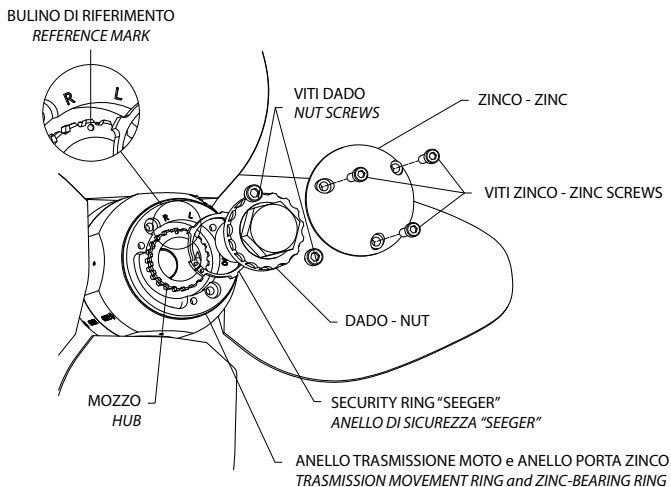

Fig. 7
look from stern to stem. If the shaft rotates clockwise, the rotation is right-handed; by contrast, if it rotates counterclockwise, the rotation is left-handed). In order to change rotation of the MAX PROP® EASY, from right-hand rotation to left-hand rotation or vice versa, operate as follows referring to fig. 7.
- If you reassemble the zinc-bearing ring, placing the tooth “R” at the tooth of the hub where the engraving is stamped, you will have a right-hand propeller, if you rather insert the ring placing the tooth “L” at the tooth of the hub where the engraving is stamped, you will have a left-hand propeller (see fig. 7).